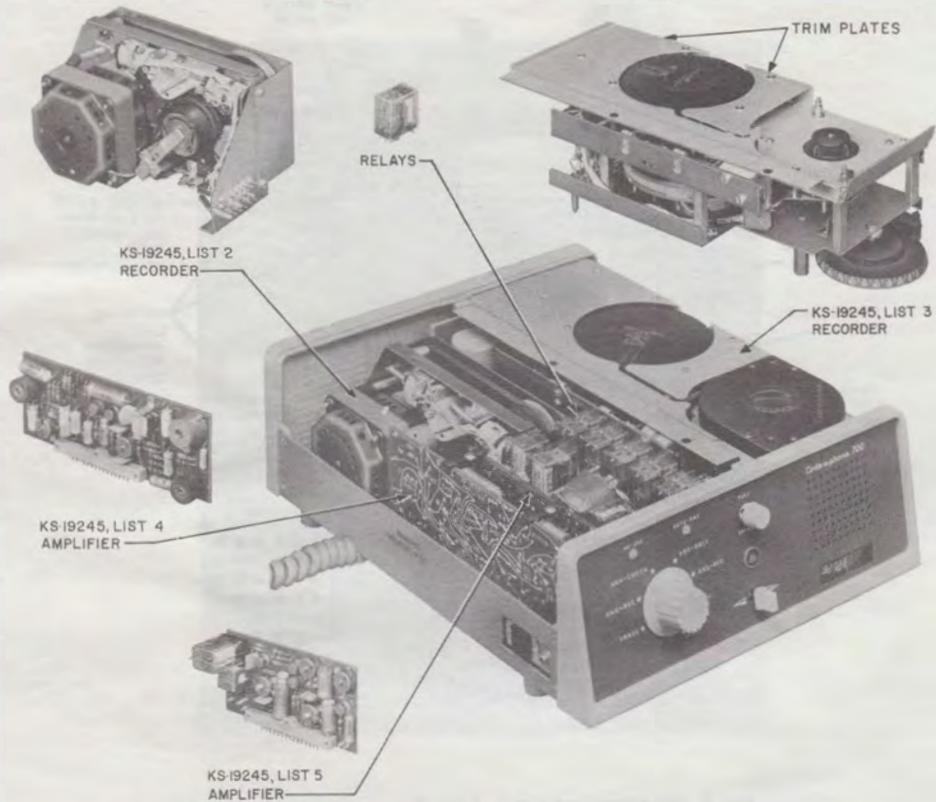

Fig. 3—KS-19245, List 1 Telephone Answering Set, Top Cover Removed
- (1) Remove top cover (2.01).
- (2) Remove List 2 recorder (Fig. 3):
**Do not lift or pry on the trim plates (Fig. 3).**
- (1) Remove top cover of answering set (2.01).
- (2) Slide wire spring retainer from relay.
- (3) Remove relay from its plug-in socket (Fig. 3).